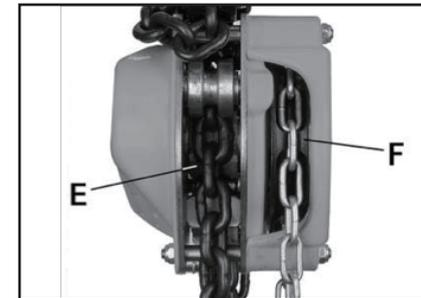

FIG 11
8. If installing entire new chain, insert end of hand chain into groove at top of hand chain wheel (see FIG 11). Rotate handwheel and pull chain through.
Install new load chain onto load chain sprocket as follows, referring to FIG 11: